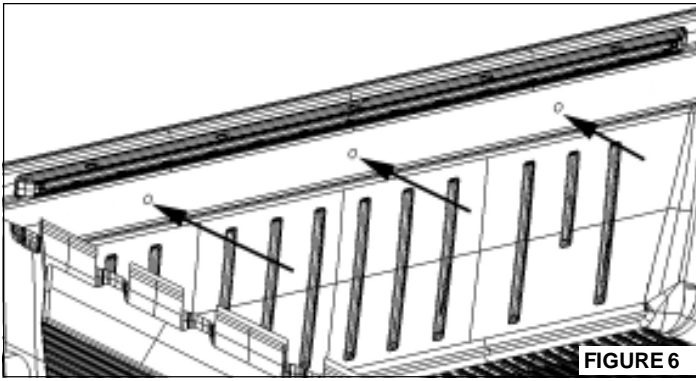

FIGURE 6
There are three (3) pre-drilled holes in the front wall of the bedliner for placement of the self tapping screws provided in the kit. (Fig. 6). Using a power screwdriver, center a self tapping screw in the center pre-drilled hole in the bedliner front wall and fasten to the truck bed front wall. **(Do Not overtighten as screws can be stripped out.)**